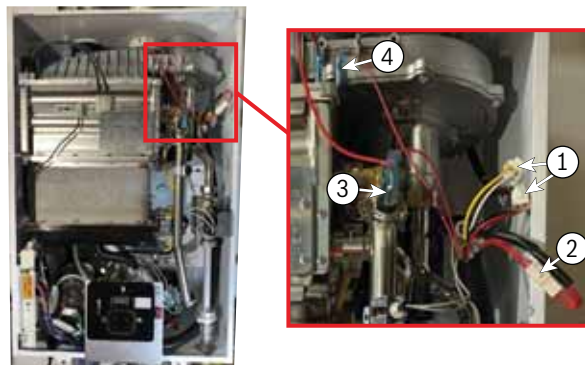

Figure 120
4. Loosen fixing screw on bottom right hand side of heat exchanger cover and Remove heat exchanger cover and disconnect flame rod and electrode assembly wires (Fig. 120, Item 2).